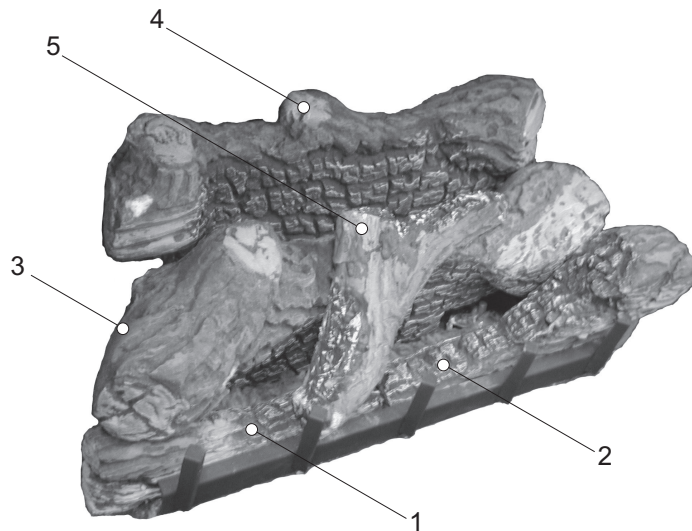
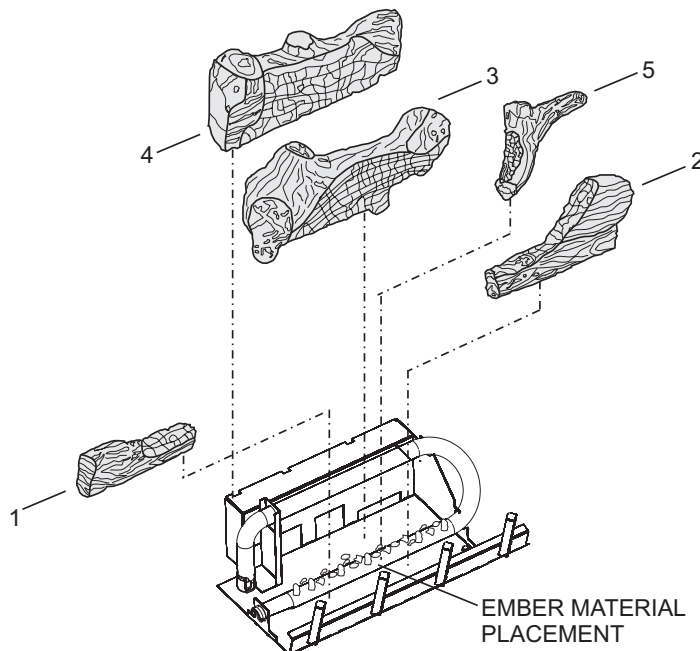

Figure 55
Figure 56
The positioning of the logs is critical to the safe and clean operation of this fireplace. Sooting and other problems may result if the logs are not properly and firmly positioned in the fireplace. Please refer to **Figure 55** and **Figure 56** and corresponding WARNING when completing following log placement instructions.
**Attention:** Do not use Figure 55 or Figure 56 to order logs. Refer to parts list on pages 50 - 51 and parts view on page 52 to order logs and/or ember material for your appropriate fireplace model.
10. After all logs are positioned properly, apply Rockwool ember material to the front burner port area. To apply, carefully separate the ember material into small amounts no larger than "dime size" pieces. Fluffed up pieces one layer thick on top of the burner generally works best, and will provide the best ember glow. Do not place ember material more than one layer thick. No more than (1) small packet of ember material (part no. 15999) evenly placed on the burner, is recommended on DVD32 and DVD36 models. Using additional ember material will decrease the amount of ember glow effect. Extra ember material should be saved for future ember applications as necessary. See Figure 56.